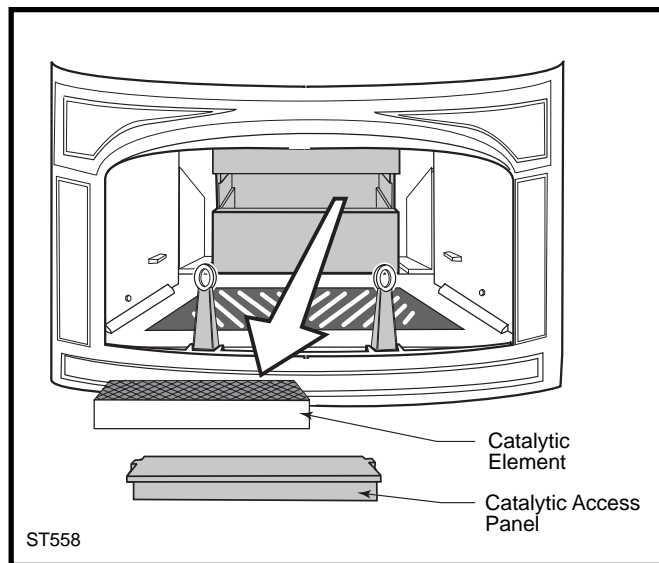

Fig. 39 Remove and inspect the catalytic element.
3. Carefully remove the catalytic combustor's refractory access cover, then remove the combustor. The refractory material is brittle; handle it carefully. (Fig. 39)